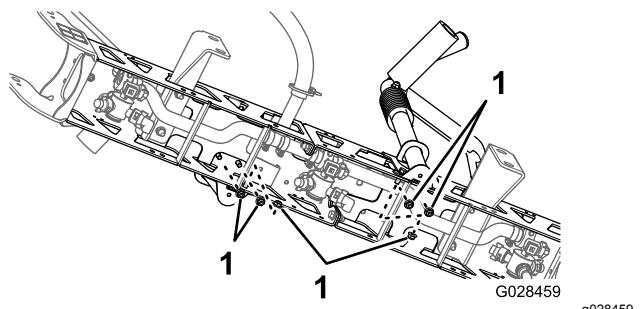

**Figure 37**
3. Assemble the cradles to the boom section (Figure 37 and Figure 38) with 6 bolts (3/8 x 1 inch) and 6 flanged locknuts (3/8 inch).